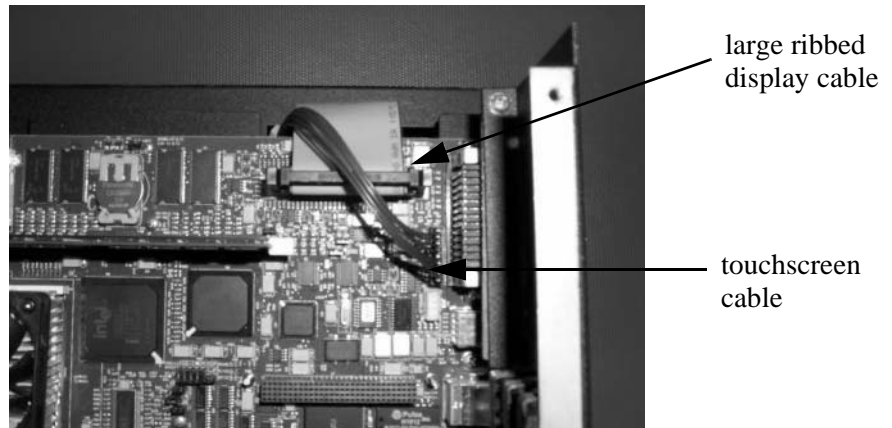

Figure 2: Display and Touchscreen Cable Locations
5. Disconnect the large ribbed display cable by pressing in on the connector tabs and pulling up on the connector. Refer to figure 2.
6. Remove the touchscreen cable by pressing in on the cable tab and lifting up on the cable. Refer to figure 2.
18. Connect the large ribbed display cable to the connector on the CPU board. Ensure the connector tabs snap in place. Refer to figure 2.
19. Connect the touchscreen cable to the CPU board. Ensure the connector retainer snaps in place. Refer to figure 2.